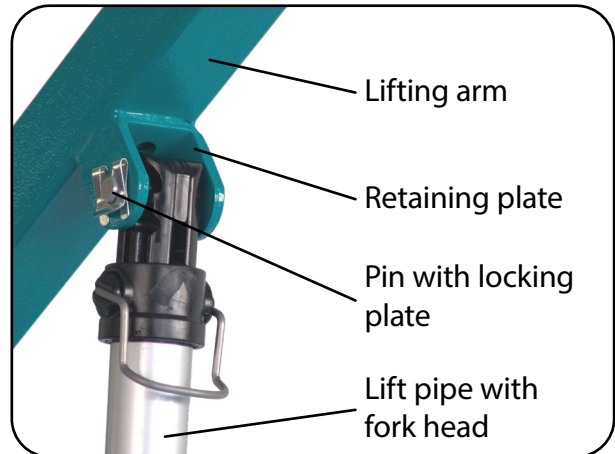

Fig. 6.2.05 – Assembly of the lift drive
7. Remove the pin with the locking plate from the retaining plate on the lifting arm (Fig. 6.2.05).
8. Raise the lifting arm and fully align the hole of the lift pipe (fork head) with the hole of the retaining plate. Fasten the lift drive to the retaining plate of the lifting arm by inserting the pin (Fig. 6.2.05).
9. Secure the pin with the locking plate (Fig. 6.2.05). To do so, push the locking plate into the groove at the end of the pin. In doing so, the curved end of the plate slides over the chamfer of the pin.